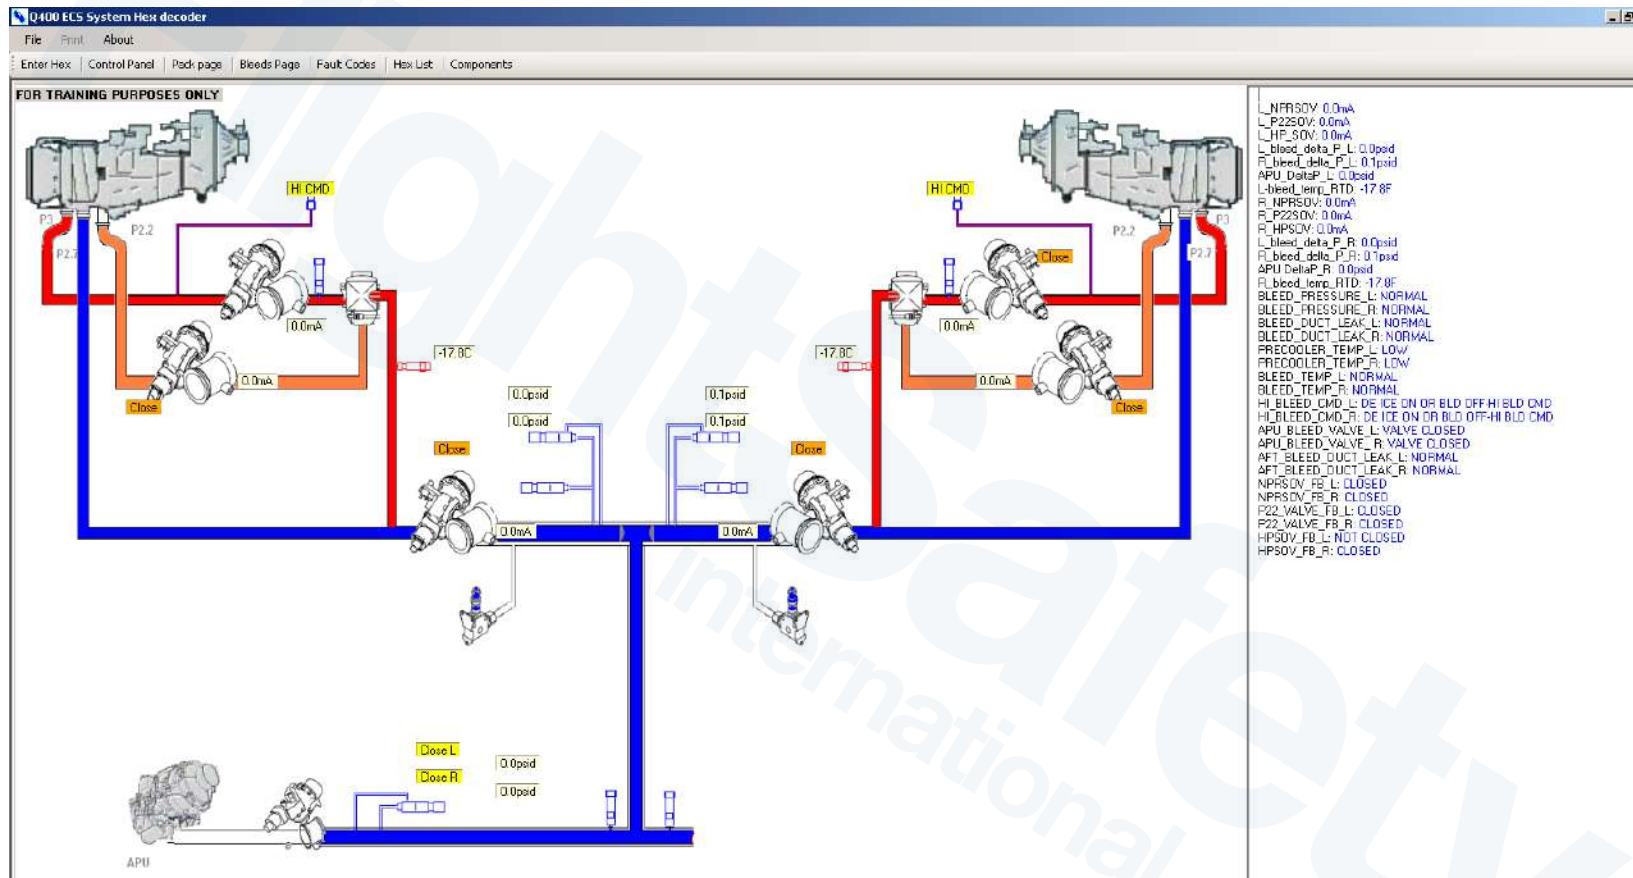

Figure 21-90. Bleeds Page Tab Screen
- Figure 21-90. Bleeds Page Tab Screen.